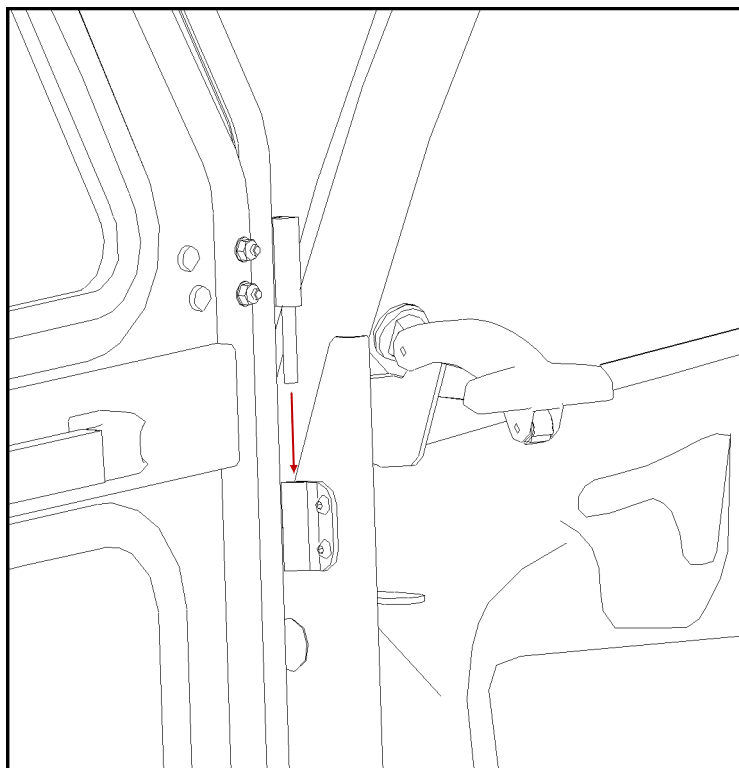

Figure 14.1: Door hinge pins into frame sleeves
14.2 Holding the door perpendicular to the vehicle, lower the door hinge pins into the hinge sleeves on the frame. **(Figure 14.1).**